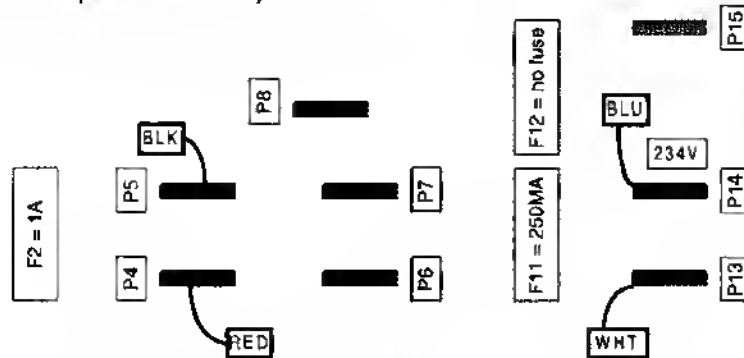

Figure 1: Main transformer connections and fuse values for 240V operation.
2. Move the blue secondary wire from P7 to P14 and move the white secondary wire from P6 to P13 - see figure 1 below.